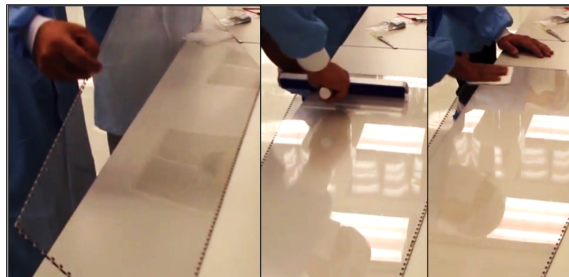

Figure 79: Cleaning the Plexiglas cover (3).
Step 3: Flip the cover upside down and repeat step 2 (Fig. 79).